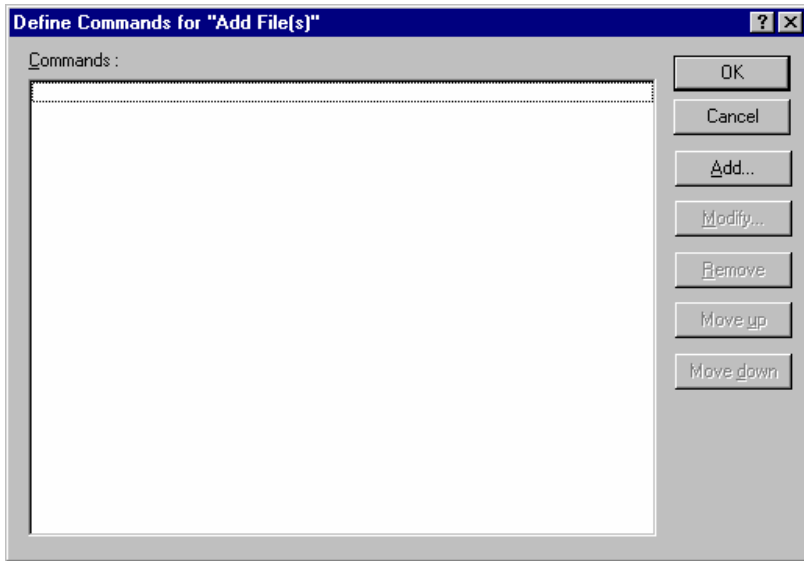
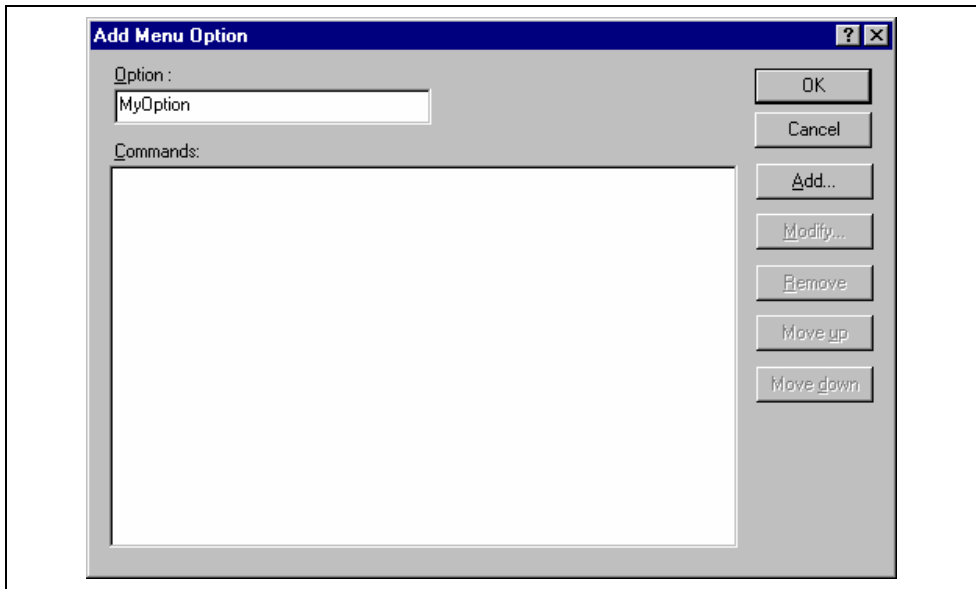
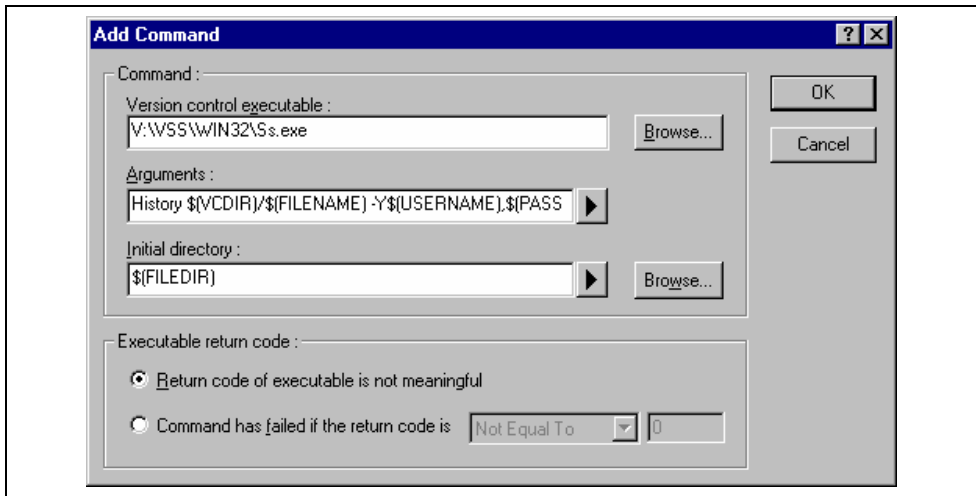

Figure 8.3: Modify System Menu Option (Example)
Figure 8.4: Add Menu Option Dialog
Figure 8.5: Add/Modify Command Dialog
2. Select the option to be modified from the "System menu options and toolbar buttons" list and then click the "Modify..." button. The dialog shown in figure 8.3 will be displayed. This figure shows a dialog when "Add File(s)" has been selected for example.
2. Click the “Add..” button. The dialog shown in figure 8.4 will be displayed.
2. Select the menu option to be modified from the “User menu options” list and then click the “Modify...” button beside the list. The dialog shown in figure 8.4 will be displayed. (The title of the dialog is “Modify Menu Option”.)
Commands are defined when the “Add...” or “Modify...” buttons are clicked on the dialogs shown in figure 8.3 and figure 8.4. In either case, the dialog shown in figure 8.5 is invoked.